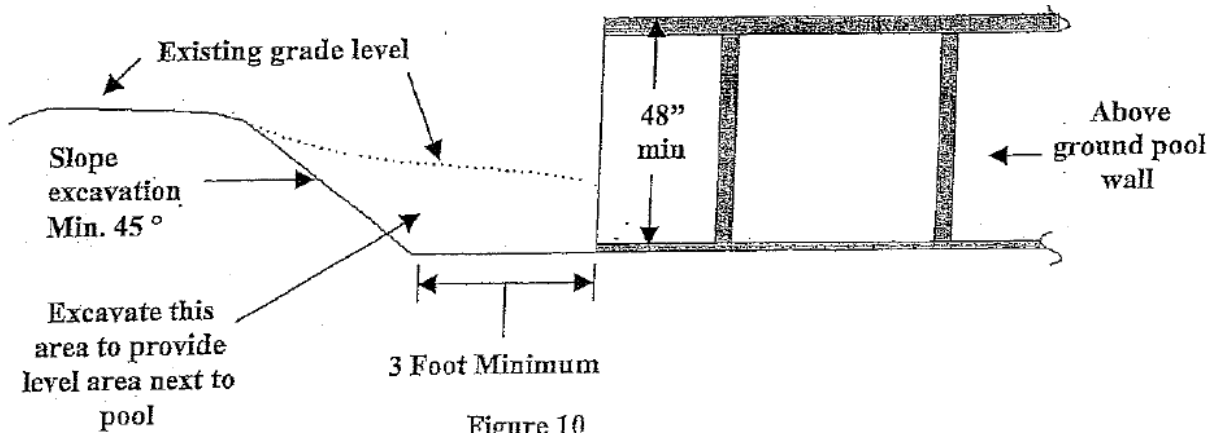

Figure 10
- j. Where an above ground pool on a sloped site what will make a portion of the top of the pool structure to be less than 48" to grade, a minimum of 3' level surface around the portion of the pool structure that is less than 48" to grade should be provided. The level surface should be measure away from the pool wall to the excavation edge and should be tapered away from the pool at a minimum of 45-degree angle for a distance of one half the level surface. (Figure 10)